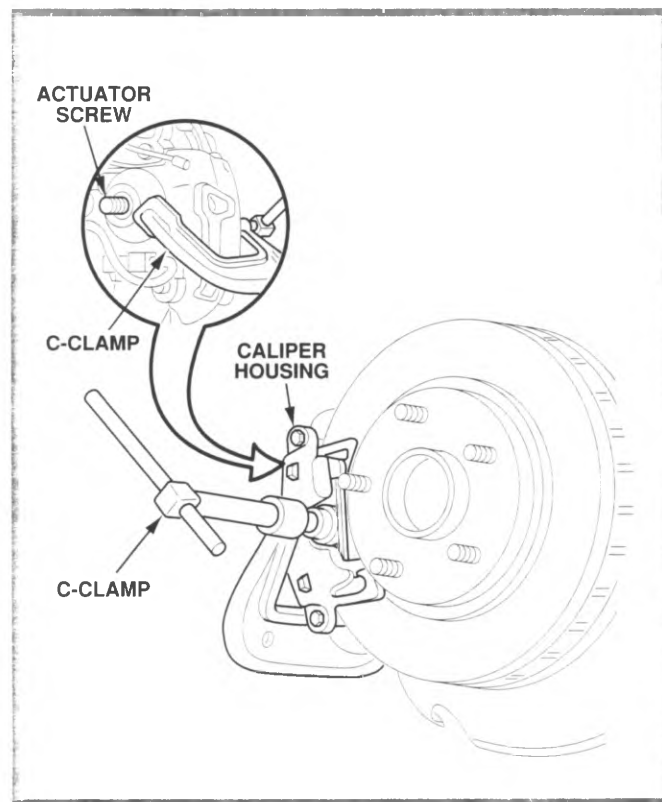

Figure 6-37. Pushing Piston Back
2. Position a large C-clamp across the inboard side of the caliper housing and outboard shoe, at the caliper cutout (figure 6-37). Tighten the C-clamp to push the piston back into the caliper bore.